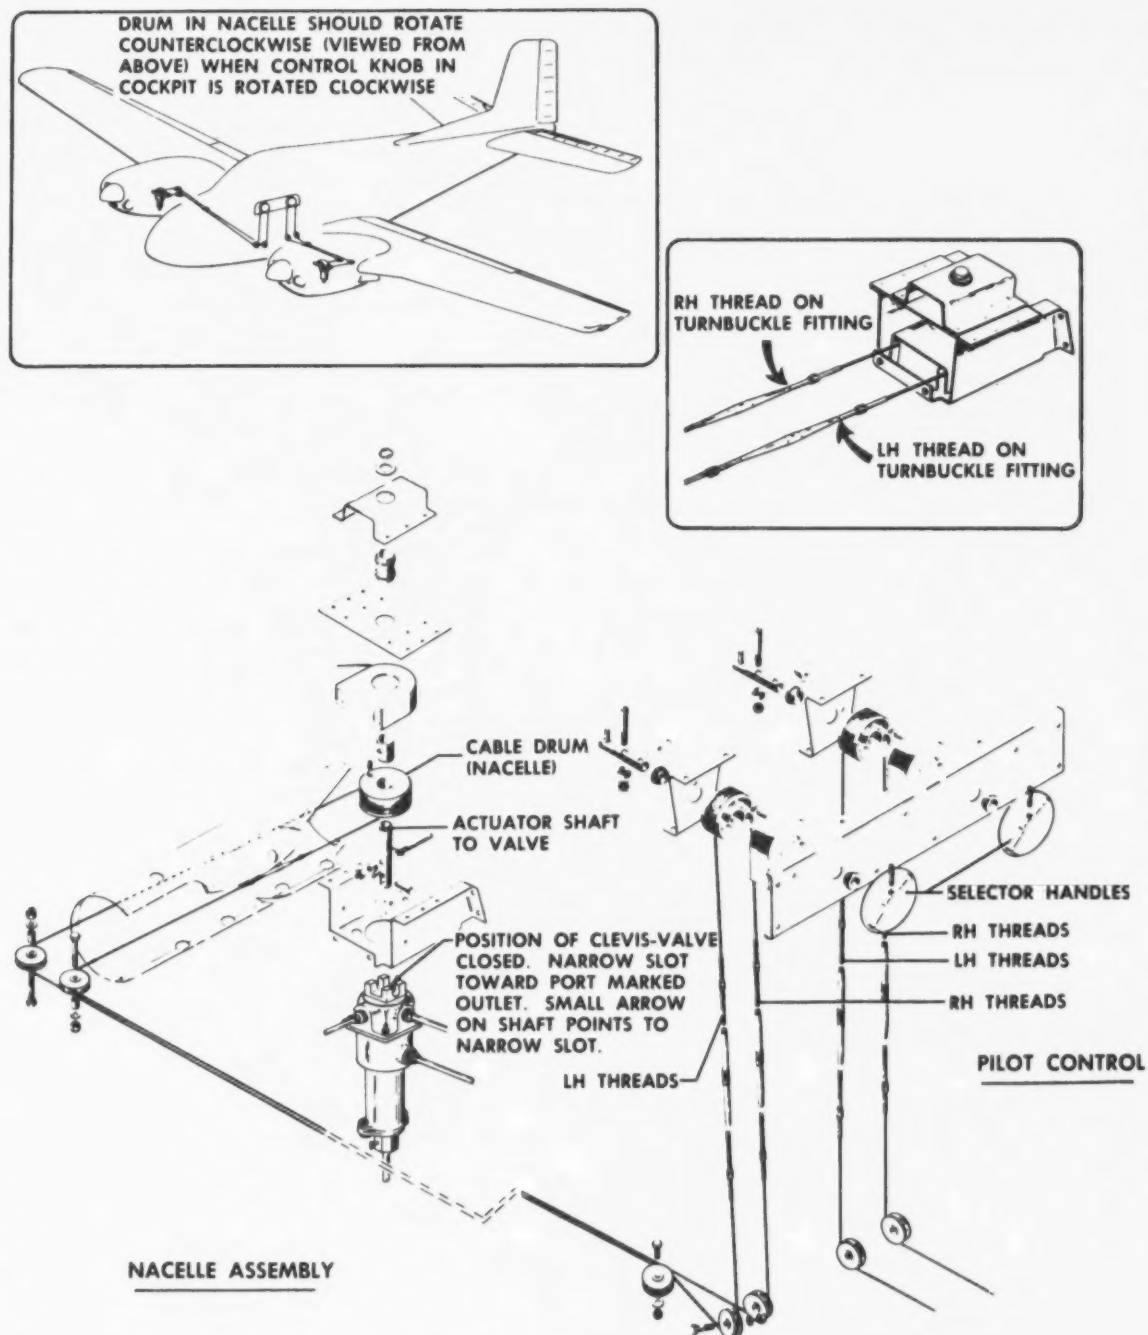

Figure 5-25A. Fuel Selector Valve Cables.
(6) Place left main boost pump switch in ON position. Fuel pressure should be indicated on left fuel pressure gage. Place boost pump switch in OFF position.
(7) Place left selector on CROSSFEED and right selector on MAIN.
(8) Place right main boost pump switch in ON position. Fuel pressure should be indicated on both fuel pressure gages.
(9) Start left engine in accordance with TM 55-1510-201-10.
(10) Place left selector in AUX position. Run engine at 1000 rpm for several minutes to ensure that fuel is being drawn for left auxiliary cell.
(11) Stop engine in accordance with TM 55-1510-201-10.
f. Rigging. (1) Place fuel selector handle in flight compartment in OFF position. (See figure 5-25A.)
(2) Place fuel selector valve in nacelle in OFF position.